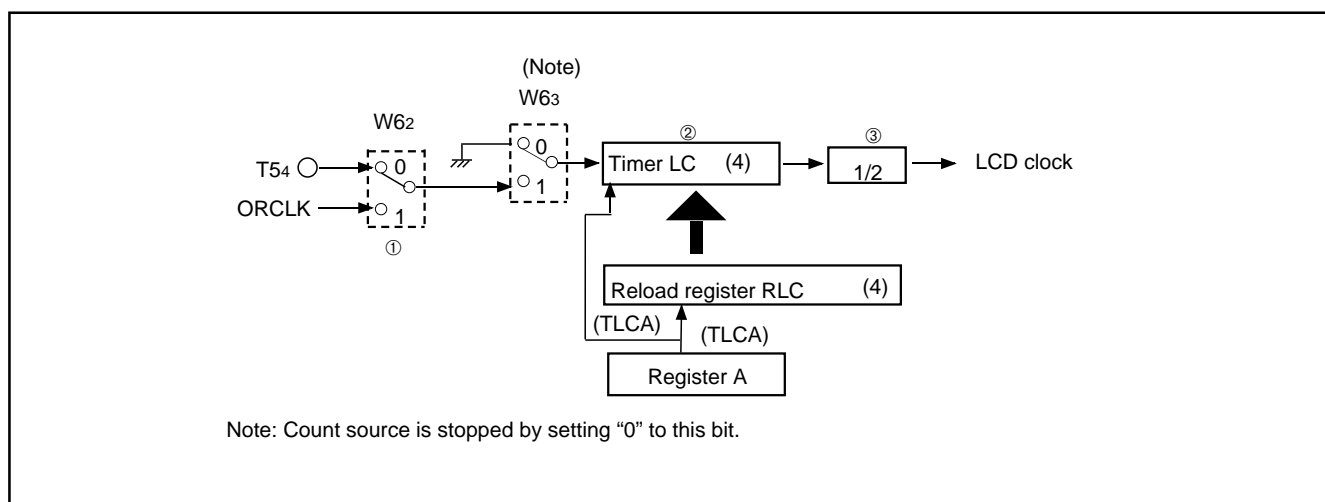

Fig. 42 LCD clock control circuit structure
(2) LCD clock control
The LCD clock is determined by the timer LC count source selection bit (W62), timer LC control bit (W63), and timer LC. Accordingly, the LCD clock frequency (F) is obtained by the following formula. Numbers (① to ③) shown below the formula correspond to numbers in Figure 42, respectively.